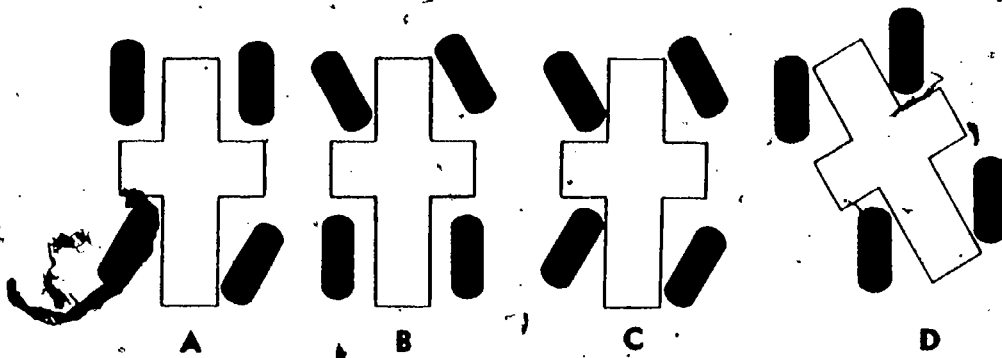

Fig 4-8. Methods of steering the MRS-100 tractor.
1. General. The tractor is equipped with independent front and rear hydraulic power steering. The steering wheel is used to steer the front wheels. The rear wheels can be steered by either the rear wheel steering pedal or lever. Since the systems are independent of each other, the front and rear wheels can be steered continuously and in different directions. Four distinct methods of maneuvering are provided (fig 4-8 A, B, C, D).
2. Independent-front-wheel steering (A). This type of steering is similar to regular automobile or truck steering. If traveling a considerable distance or at fast speeds, the rear wheels should be locked in the straight-ahead position to avoid rear-end drift or accidental rear wheel steer.
3. Independent-rear-wheel steering (B). By using the rear-steering-control lever (or pedal), only the rear wheels are affected. This type of steering is helpful when backing or positioning a towed vehicle. The front axle steering may also be locked out, but this feature is only used for sectionalization, not for normal operations.
4. Articulated steering (C). By coordinating both the front- and rear-wheel steering, the tractor can be turned in a much shorter radius, whether moving forward or backward. The wheels are simply steered in opposite directions.
5. Crab steering (D). By cross-controlling the steering wheel and the rear-steering control lever, the tractor can be made to travel in an oblique direction, with no two wheels moving in the same tracks. This is a useful method of steering when operating at the edge of a shoulder or when positioning the tractor for another dozer pass.